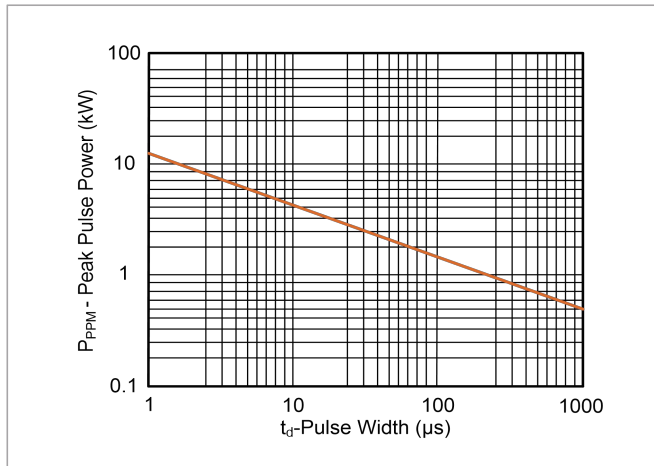
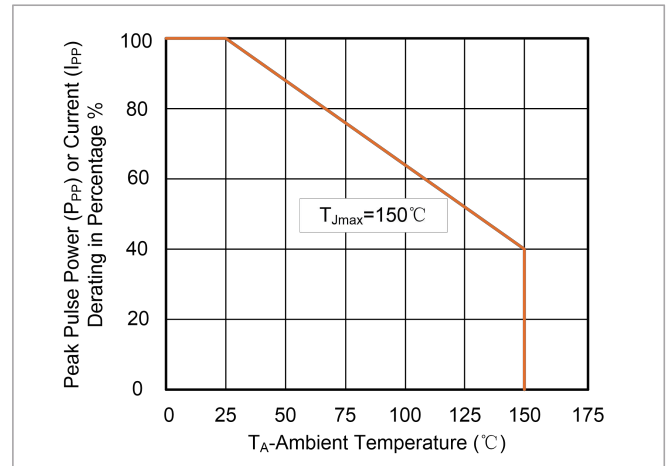

Figure 2:
Figure 3:
1. Non-repetitive current pulse, per Fig.3 and derated above T_J (initial) =25°C per Fig.2